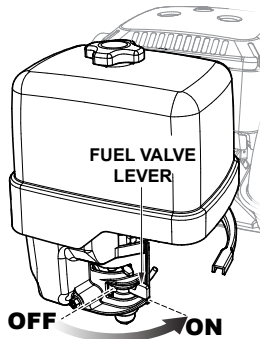

Figure 9. Engine Fuel Valve Lever (ON Position)
1. Place the engine fuel valve lever (See Figure 9) to the **ON** position.